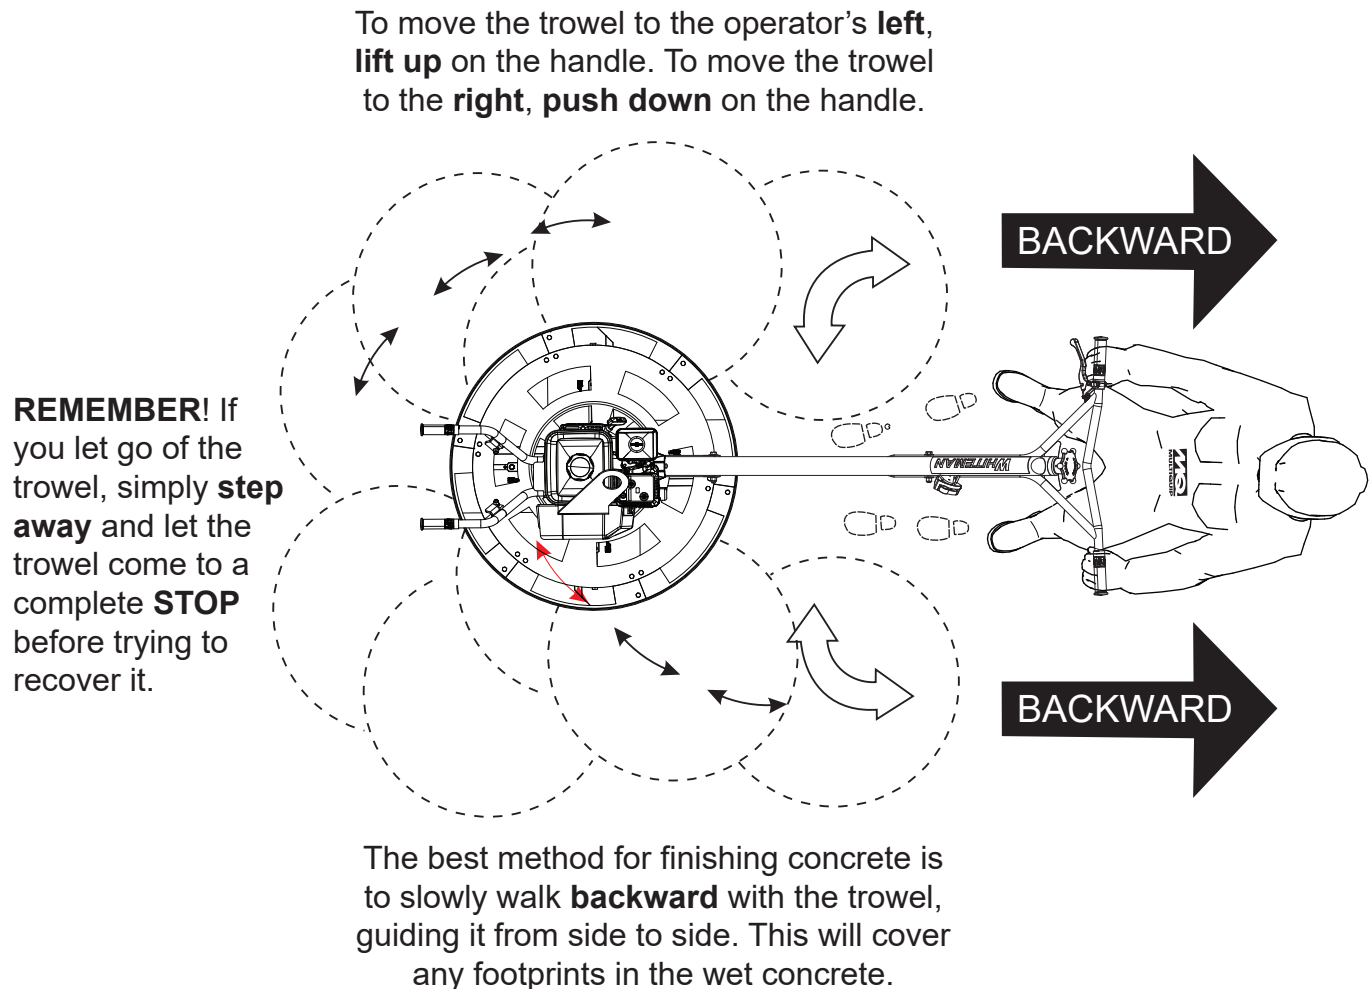

Figure 45. Maneuvering the Trowel
2. Figure 45 illustrates a typical walk-behind trowel application. Practice maneuvering the trowel. The trick is to let the trowel do the work.